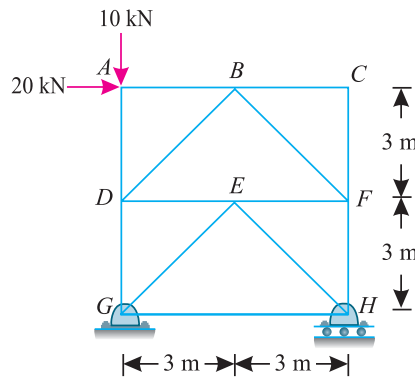

Fig. 12.37.
2. A truss is subjected to two point loads at A as shown in Fig. 12.37.